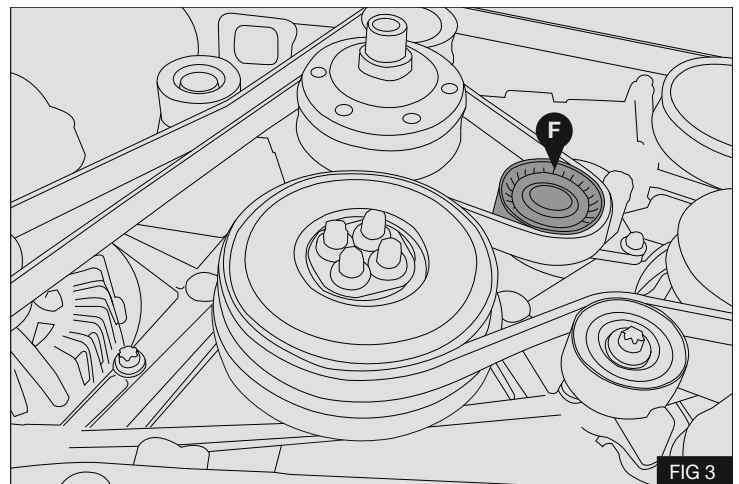

FIG 3
3. Using a suitable tool rotate the automatic belt tensioner pulley (F) clockwise and insert a 4mm pin to lock the tensioner open. Remove and retain the original drive belt, note the direction of rotation and the routing of the original belt - Fig 3